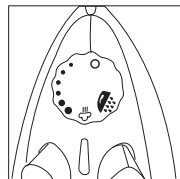

Figure 2:
- Rotate the variable steam / self clean control to the steam position (Fig 2).
- Adjust the temperature control dial (10) to the required setting.
- To create steam, set the Variable Steam / Self Clean Control (15) to the required steam position (Fig 2).